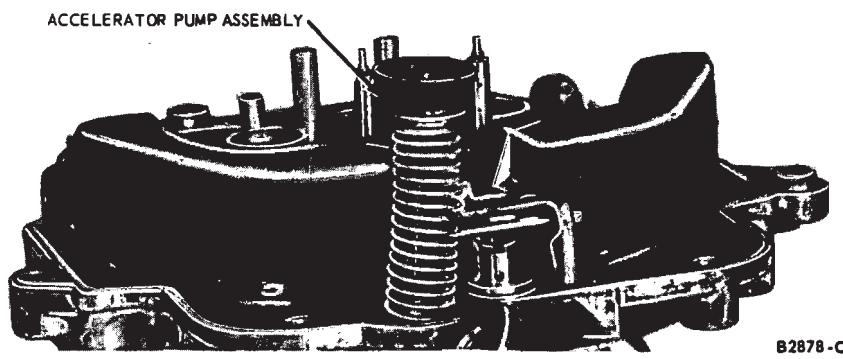

FIG. 12—Accelerator Pump in Position on Air Horn
2. Assemble the accelerator pump plunger (Fig. 12) and insert into air horn.